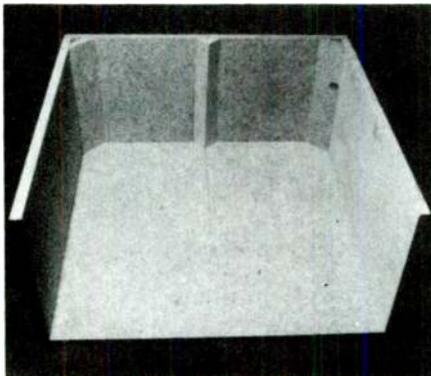
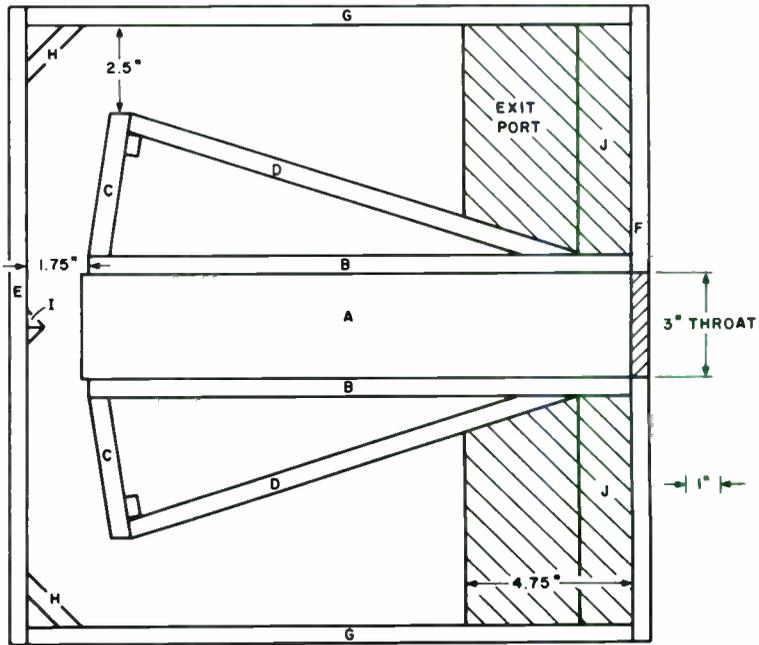

FIGURE 11: While the glue sets on the manifold assembly, make the outer box module. Note the corner reflectors.
FIGURE 12: This side view shows the placement of parts and the critical dimensions.
manifold. Join E and G and a side piece with glue and 1" brads to form a U-shaped box (Fig. 11). Glue and clamp into place the divider pieces (I) and the corner pieces (H). Set the throat assembly into the box and align it according to Fig. 12. Draw lines along the throat assembly so that when you glue it later, you will have an alignment guide. Take the speaker mounting board (F), match it up with the throat assembly while it is still in the box, and draw a line along F where it joins the throat assembly. Now push all this out, maintaining the alignment lines on F. Reach in on the opposite end with a long pencil (or a pencil attached to a long dowel) and make an outline of the throat opening on F. Those with large hands might ask a wife, child or friend with smaller hands to help with this. Cut the throat opening out by drilling a 1/4" hole in each corner and cutting the waste out with a saber saw.